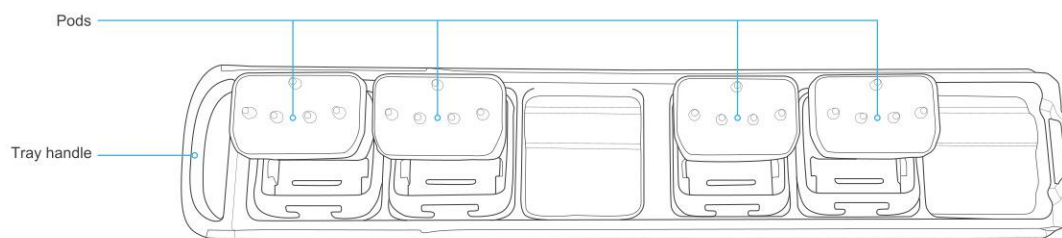

Figure 11: Pods in tray
- Open the Pod package and place the Pods into the trays. Orient the Pods with the reservoirs toward the back of the tray. (Reference Figure 11 below)